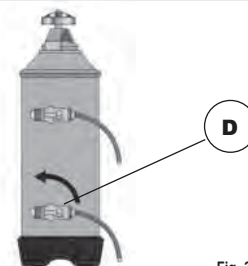

Fig. 32
- 3) Reposition lever D towards the left (Fig. 32).